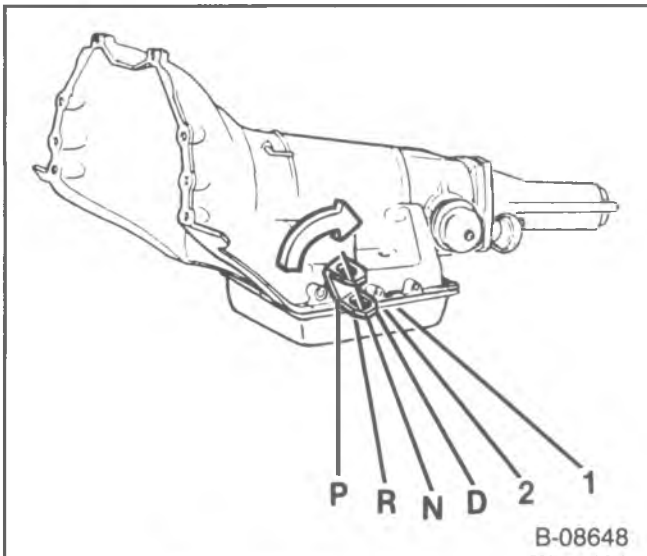

Figure 63—Shift Positions
1. Loosen the screw (242) or the nut (236), as used.
- Move the shift lever (A) to the forward position, the back to the second detent. (Figure 63).
4. Hold the rod (240) tightly in the swivel (232)
- Nut (236) or the screw (242), to 23 N·m (17 ft. lb.).